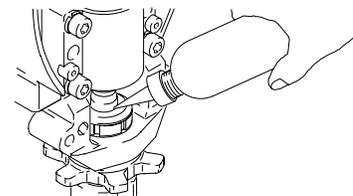

Fig. 13
- Fig. 13. Fill packing nut with Graco TSL until fluid flows onto the top of seal.